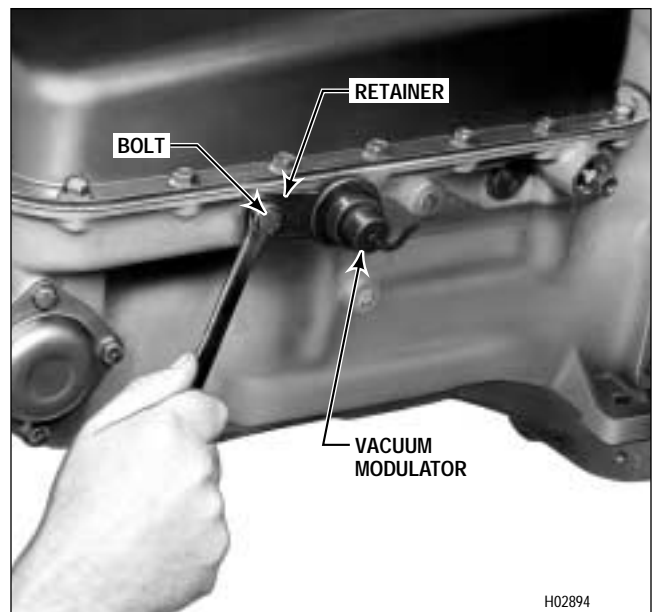

Figure 5-3. Removing Vacuum Modulator Retainer Bolt
- (1) Rotate the transmission, oil pan side upward.
- (2) Remove the bolt and retainer from the transmission case (Figure 5-3).